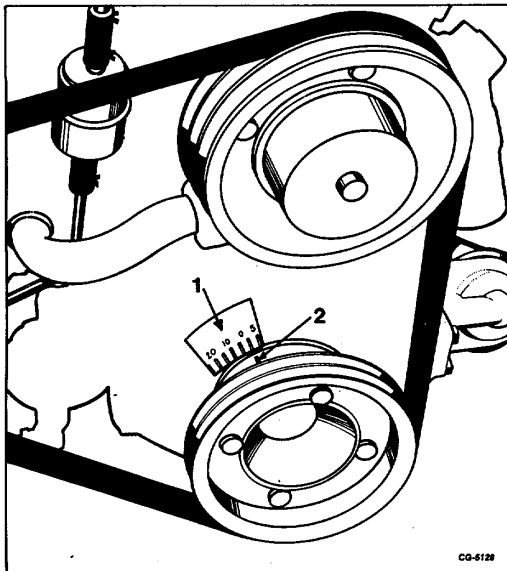

Fig. 45. Timing Marks (V-304, V-345, V392 Engines Shown)
8. Operate engine at idle speed and observe timing marks with timing light. Rotate distributor housing as needed to align timing mark on crankshaft pulley with specified initial timing mark on timing quadrant (Figure 45). When timing is correct, tighten distributor hold down bolt and recheck timing to be sure it did not change.